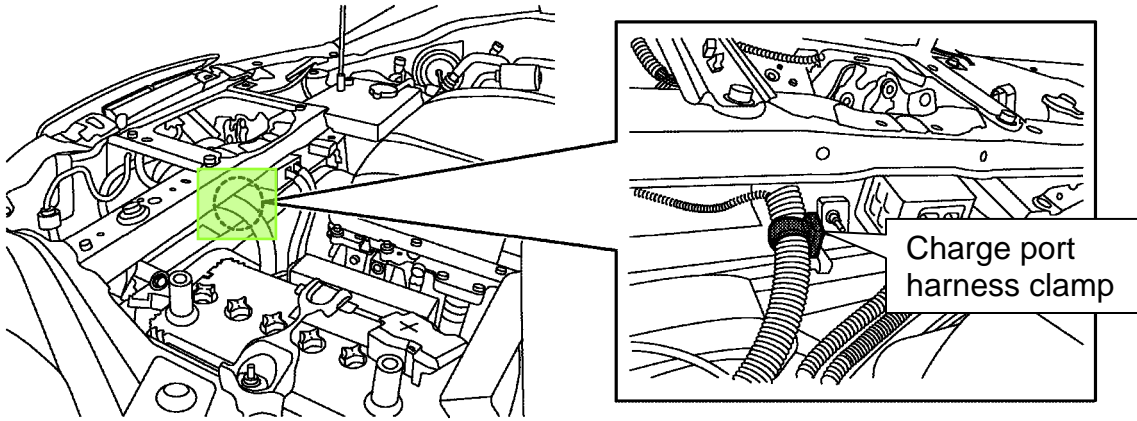
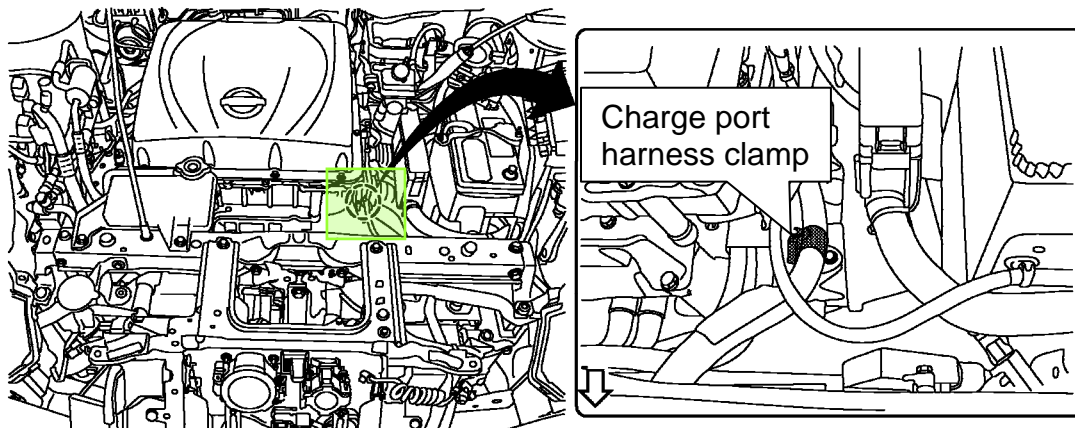

Figure 26
Figure 27
28. Remove the charge port harness clamps from the brackets at the radiator core support (Figure 26) and inverter side (Figure 27).